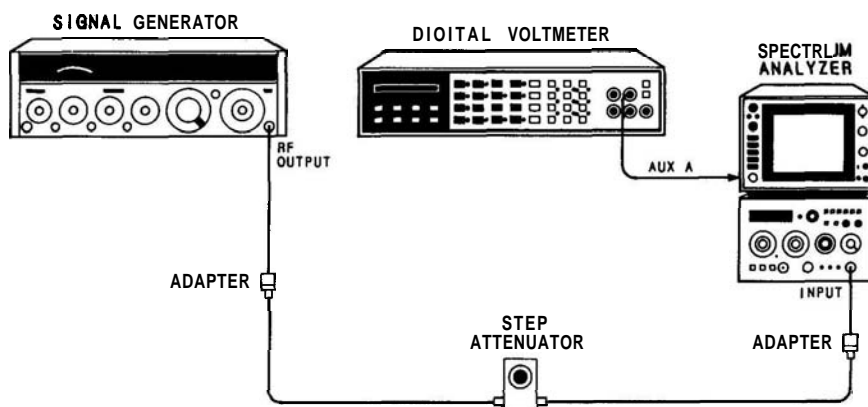

FIGURE 4-22. DISPLAY FIDELITY TEST SETUP
3. Connect equipment as shown in Figure 4-22. Set step attenuator to **0 dB**.
5. Set spectrum analyzer's **FREQ SPAN/DIV** control to zero (0), **VIDEO FILTER** full CW (not in detent), and **RESOLUTION BW** control to 1 MHz. Adjust TUNING control for maximum reading on DVM.